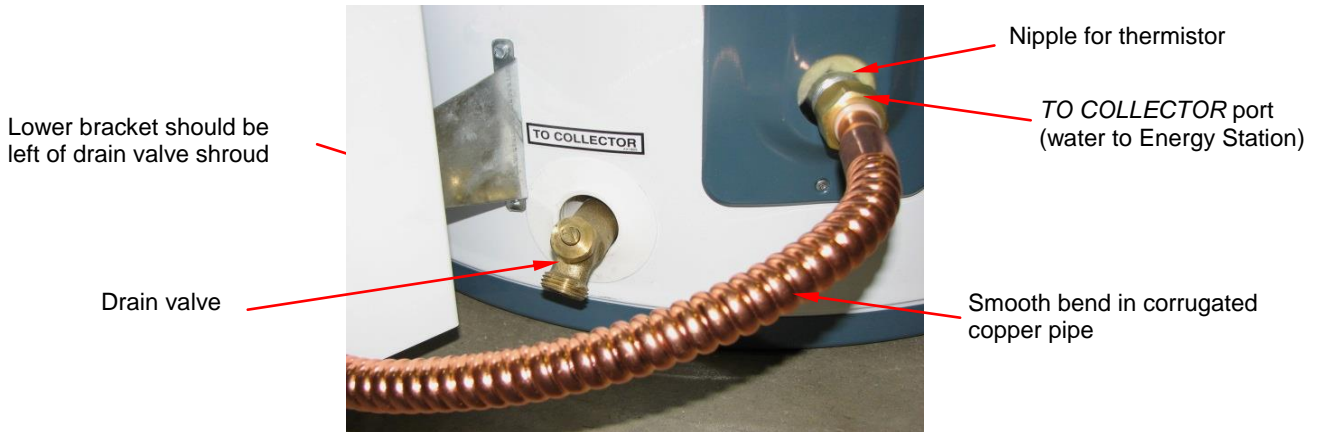

Fig.4.2.5 – Lower right bracket of Energy Station should be left of plastic drain valve shroud.
- With Energy Station upright and corrugated copper pipe straight, thread un-connected end of corrugated pipe onto lower port of solar tank labeled “TO COLLECTOR” (Fig.4.2.5). Tighten but do not over-tighten or gasket will be damaged.
- Lift Energy Station and “walk” it in to tank, such that Energy Station mounting brackets are in contact with storage tank wall. Lower right bracket should be left of plastic drain valve shroud. Corrugated copper pipe should have smooth bend (Fig.4.2.5). Place Energy Station on a 2” x 4” block that is lying flat, such that lower manifold is resting on block. If a drain pan is used, Energy Station may need to be mounted slightly higher on tank to clear pan rim.
12. Storage tank temperature sensor, or thermistor, is taped to inside of Energy Station housing at lower right and connected to Controller by two blue wires. Slide hose-clamp to the nipple attached to the solar tank and fasten thermistor to smooth surface of tank's nipple (Figs.4.2.5). Do not over-tighten hose-clamp as thermistor may dent and damage nipple.